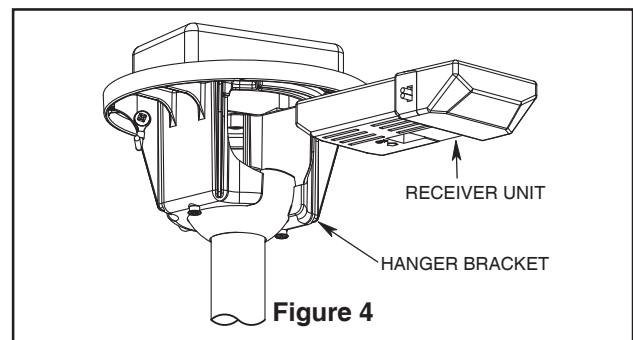

Figure 4
4. Position downrod support and align the clevis pin holes in both parts. Install the clevis pin and secure with the hairpin clip. Tighten the two set screws and locking nuts in the downrod support (Figure 4).
2. Carefully lift the fan and seat the downrod/hanger ball assembly on the hanger bracket that was just attached to the outlet box. Be sure the groove in the ball is lined up with tab on the hanger bracket (Figure 4).
3. Slide the receiver unit into the open end of the hanger bracket (Figure 4).
- 4. Connect the 2-pin connector from the socket plate to 2-pin connector from motor assembly (Figure 4).
- 4. The 5-button hand-held remote transmitter includes five buttons for high, medium and low fan speeds as well as fan off and light on/off. Infinite light levels are available by holding the light on/off button (Figure 4).